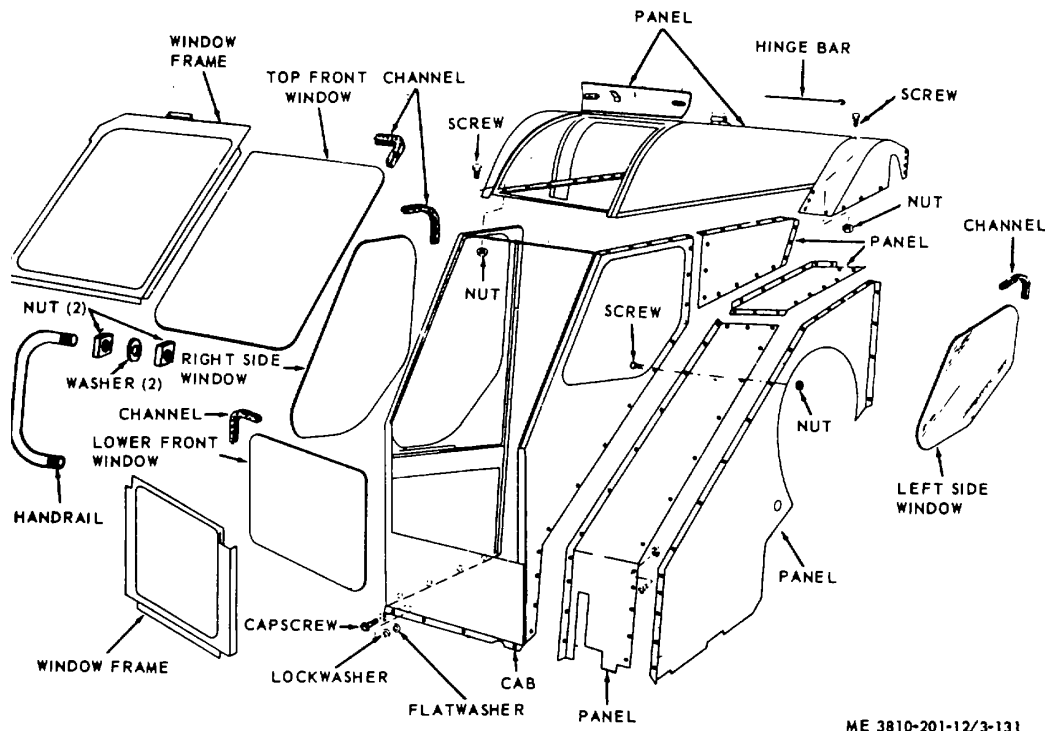

Figure 3-118. Handrail, panel, window frame, and cab, removal and installation.
(1) Remove two nuts (fig. 3-118) and two washers, then remove handrail from cab.
(2) Remove the two remaining nuts from handrail.
(3) Install in reverse order.
groove of channel (fig. 3-118) and slide tool completely around channel to break the seal.